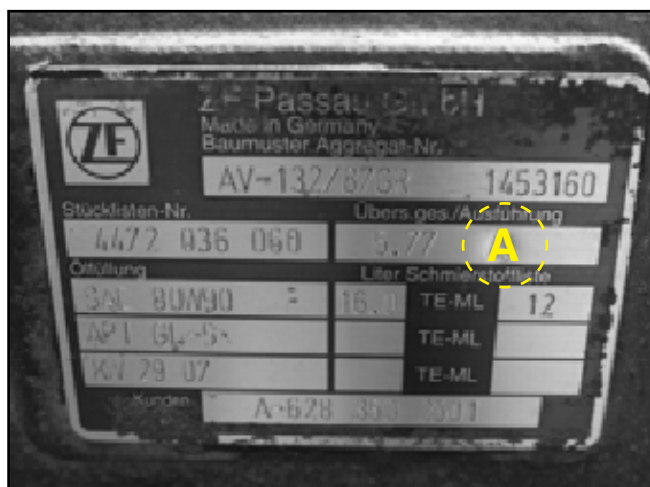

Figure 22 - Identification Plate
2.72. Stamp the letter "A" in the "Version" field of the identification plate in order to indicate the completed axle conversion. See Figure 22.